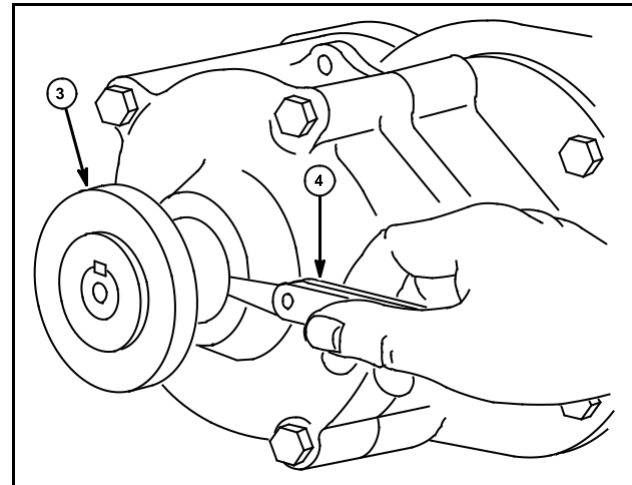

Fig. 47
NOTE: If a dial indicator is not available, use a sprocket or pulley (3) and feeler gauge (4) to check end play as shown in Fig. 47.